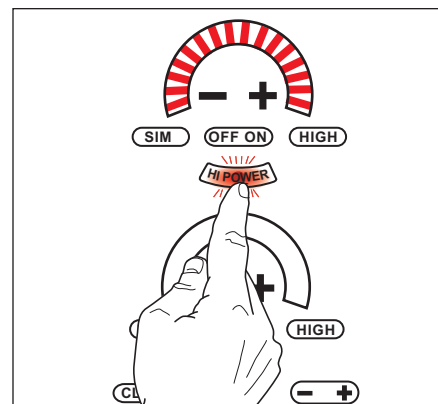

Figure 3-14 Press “HI POWER”
6. Touching “HI POWER” pad activates the power boost LED in addition to the 16 Power Level Indicator-LED’s. (See Figure 3-14)